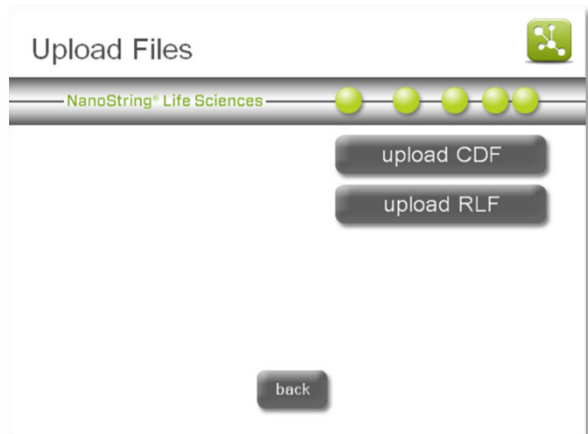

Figure 51: The 'Upload Files' screen
3. The 'Upload Files' screen will appear (Figure 51). Select **upload RLF**.